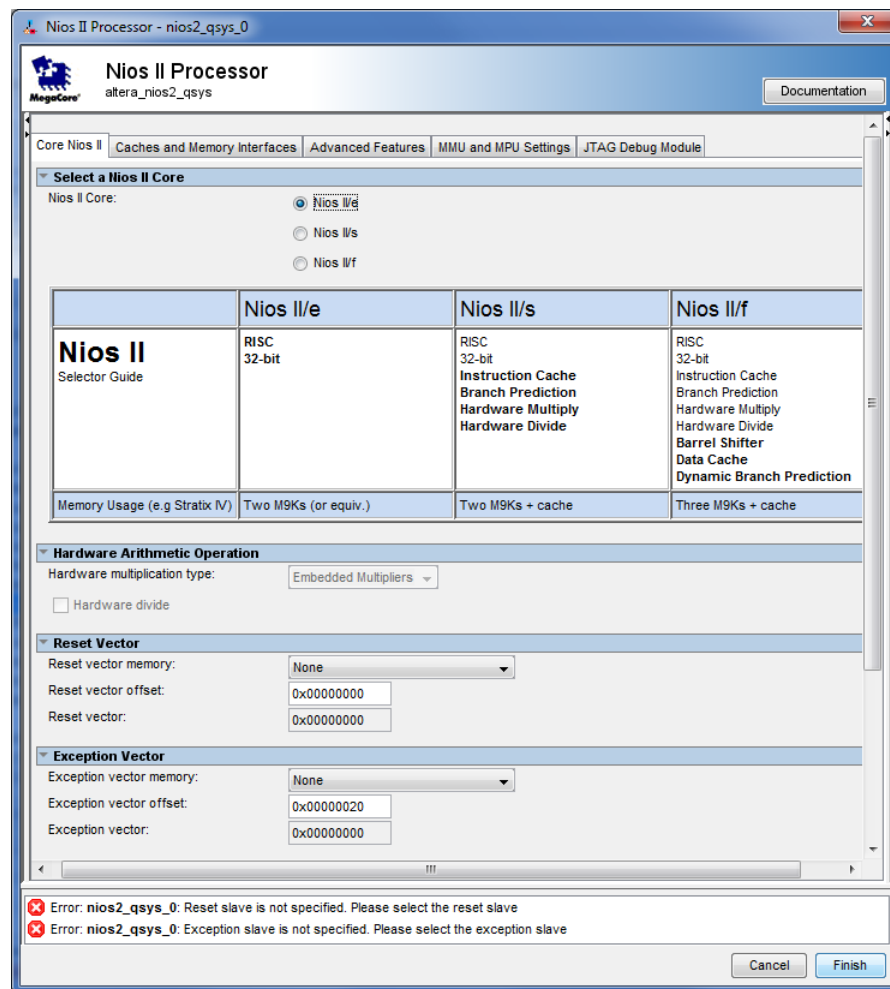

Figure 6. Create a Nios II processor.
- On the left side of the Qsys window expand **Embedded Processors**, select **Nios II Processor** and click **Add**, which leads to the window in Figure 6.
- Observe that the error messages dealing with memory assignments shown in Figure 6 will now disappear